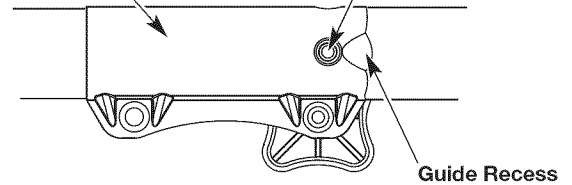

Fig. 7
NOTE: Aligning the release button with the guide recess will help installation (Fig. 7).
2. Press and hold the release button (Fig. 7).